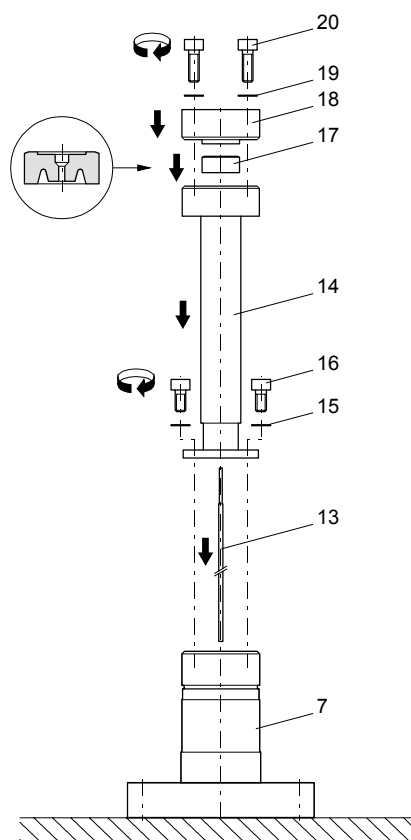

Figure 4
- i) Put the complete measuring chamber on the table with the flange pointing downwards and carefully slide the extension piece (13) over the anode pin (→ Figure 4).
- j) Carefully slide the tube (14) over the extension piece and secure it with the two screws (16) and the lock washers (15).
- k) Slide the insulator (17) over the extension piece (13) as shown in Figure 4 and secure the pressure piece (18) with the two screws (20) and the lock washers (19).